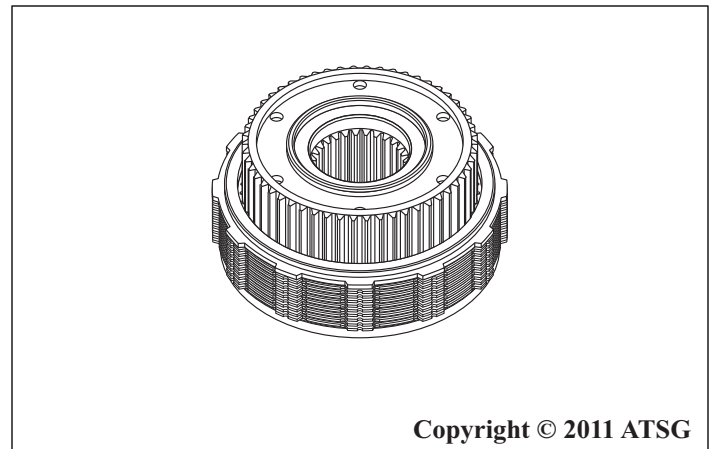

Figure 184
26. Install the overdrive clutch backing plate on top of the last friction regardless of the clutch plate design, as shown in Figure 184.